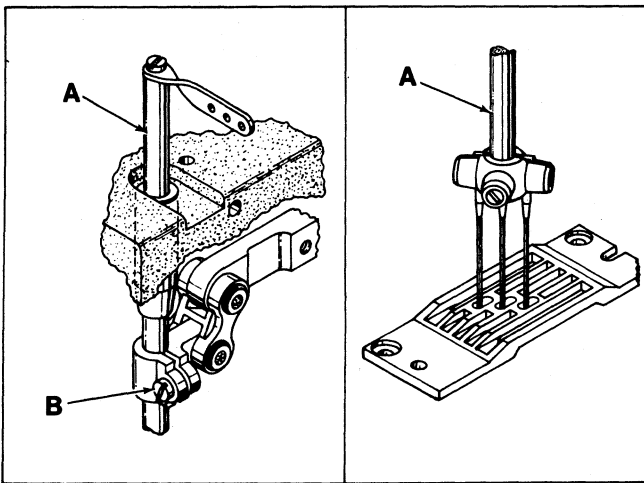
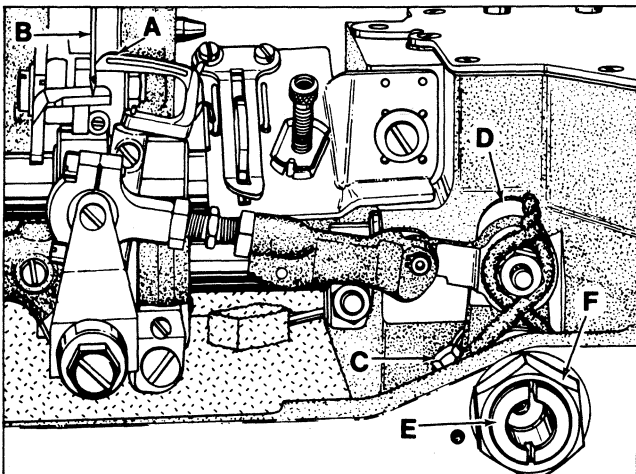
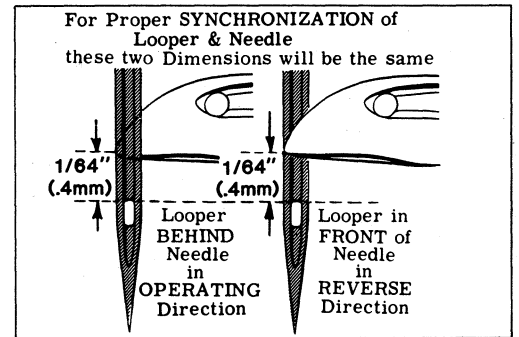

Fig. 3
Fig. 4
Fig. 5
Insert a new set of needles (type and size required). Turn handwheel to bring needle bar (A, Fig. 3) down to ensure that needles center in needle holes of throat plate as shown in Fig. 3. Adjustment can be made by loosening screw (B) slightly, allowing needle bar to be turned as required. Tighten clamp screw.
Insert looper into the looper rocker, pushing it all the way down and tighten screw against flat on shank of looper. Turn handwheel in operating direction until the point of the looper (A, Fig. 4) moving to the left, is even with the left side of the right needle (B). Note the height of the eye of the needle with respect to the looper point (See Fig. 5). Turn the handwheel in the reverse direction until the point of looper again moving to the left, is even with the left side of right needle (See Fig. 5). If the height of the eye of the needle with respect to the looper point are the same, looper and needle motions are synchronized - a variation of .005 inch (.127mm) is allowable.
NOTE: The 1/64 inch (.4mm) dimension shown in Fig. 5 is for final setting of needle bar height.
Loosen screw (C, Fig. 4) in looper drive lever (D). A rod of .146-40 thd. or Union Special Screw No. 22870 A can be threaded into the looper drive lever rocker shaft through the center of thrust adjusting screw (E). Tap or pull slightly as required to position shaft for proper synchronization. Tighten screw (C) securely and remove rod or screw used to position shaft. Loosen lock nut (F) and TORQUE thrust adjusting screw (E) to 6 in. lbs. (7cm/kg); re-tighten lock nut (F) securely.
The height of the needle is correct when the top of its eye is $\frac{1}{64}$ inch (.4mm) below the underside of the looper, with the looper point flush with the left side of the needle as shown in Fig. 5. On Styles 56500 A, B and C the top of the needle eyes should be even with the underside of the looper when the looper point is flush with the left side of the needle. If adjustment is necessary, loosen screw (B, Fig. 3) and move needle bar (A) up or down as required and retighten screw. On two and three needle machines, care should be taken not to disturb alignment of needle bar when moving the needle bar either up or down. The descending needles must be deflected alike on the back of the loopers.